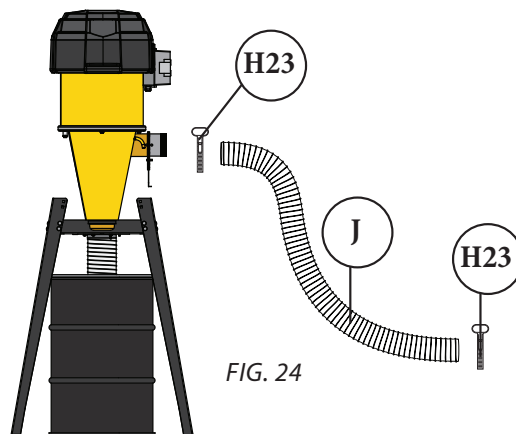

FIG. 24
Connect the Supercell to your tools or ductwork using the Vacuum Pressure-Rated Hose (J). Secure the hose in place using Hose Clamps (H23) at both ends [FIG. 24].